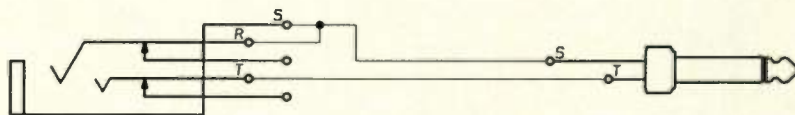

FIGURE 1
A To answer the first question, we will begin with unbalanced termination to a TT jack (refer to fig. 1). As unbalanced terminations use two conductors, there are two terminations to be made to the jack. The signal conductor (center conductor in a coaxial cable) is connected to the tip (T) terminal, and the signal return or ground conductor (shield conductor in a coaxial cable) is connected to the sleeve (S) terminal. Because the ring (R) terminal is not used, it can be wired directly to the sleeve terminal for a second ground contact to the plug body. This termination scheme assumes that the jack will carry a signal from an unbalanced output to an unbalanced input; conversion between balanced and unbalanced signals is a separate consideration and depends on the equipment used in the application.